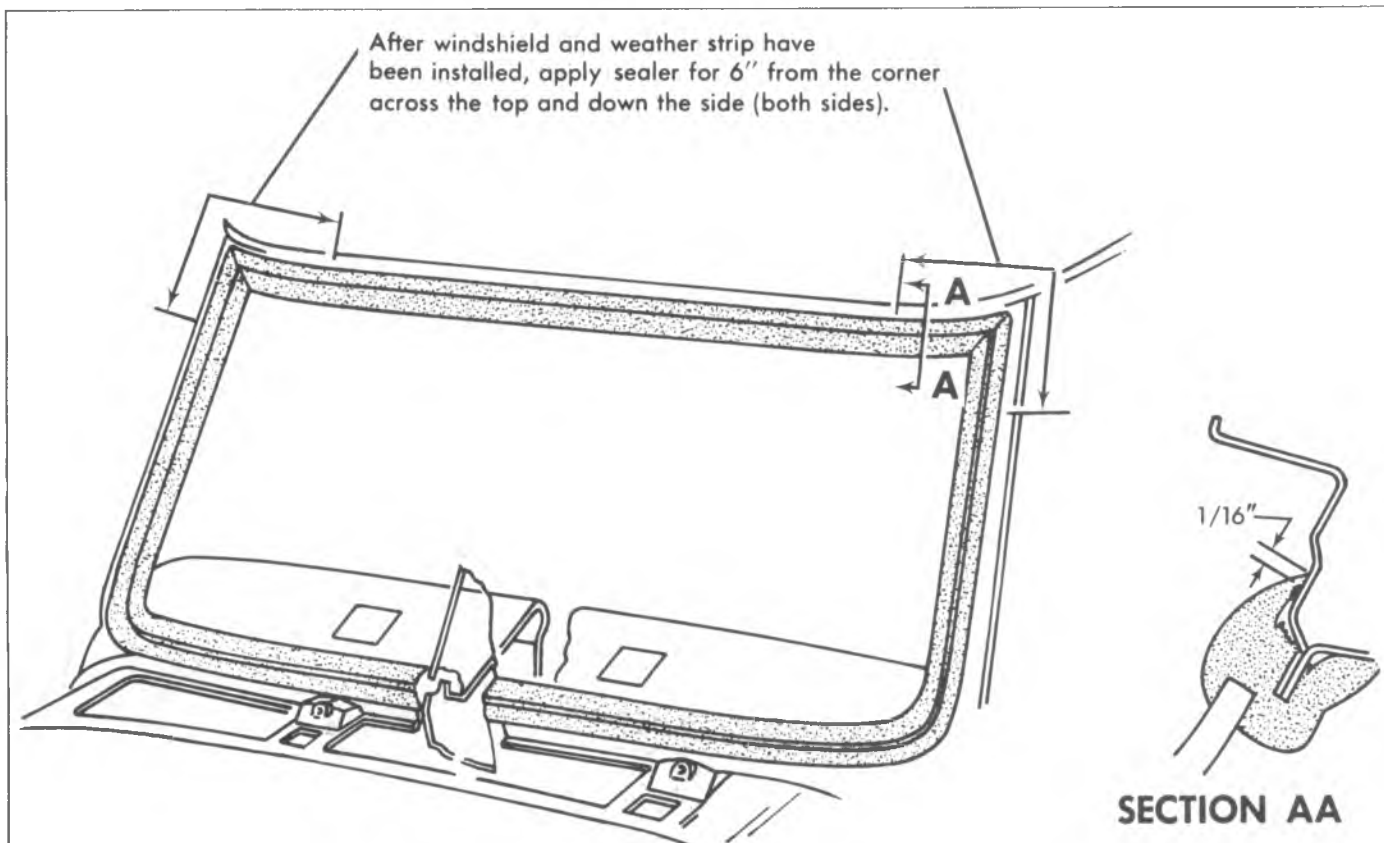
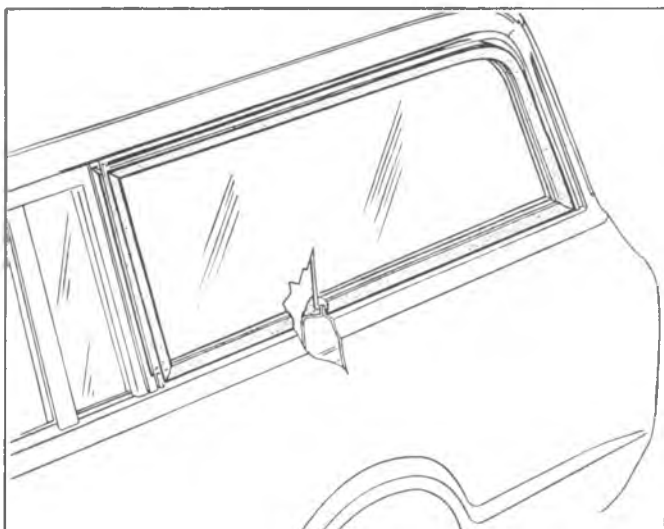

Fig. 6—Windshield Glass, Weatherstrip and Sealing—Conv. Cab
Fig. 7—Rear Stationary Window
WINDSHIELD GLASS (Fig. 6) AND BODY GLASS (Fig. 7)
3. Place protective covering over plenum grille, front fenders and hood. Apply sealer to weatherstrip in areas noted in Figure 7.
- d. Apply sealer to upper corners as shown in Figure 6.